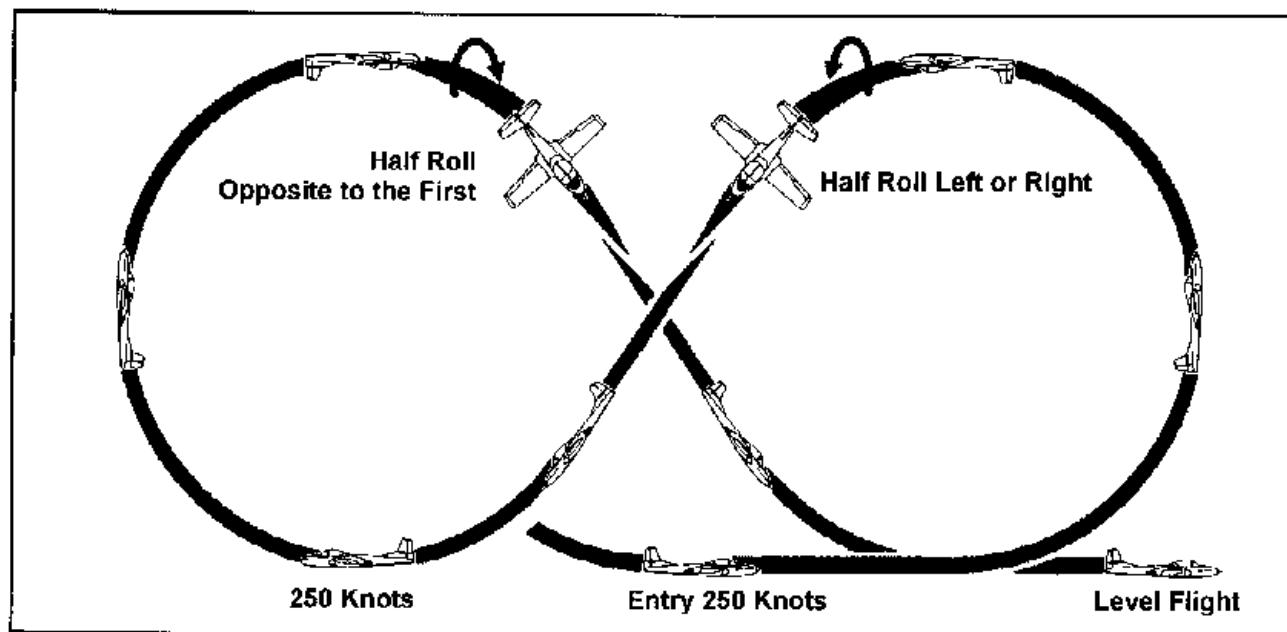

Figure 5.10. Cuban Eight.
5.24. Cuban Eight. Each half of this maneuver is a slightly modified combination of the loop and the Immelmann. It is approximately the first ~~three~~ ^{eight} ~~quarters~~ ^{fifths} of a loop followed by a half roll. It is then repeated in the opposite direction (figure 5.10).